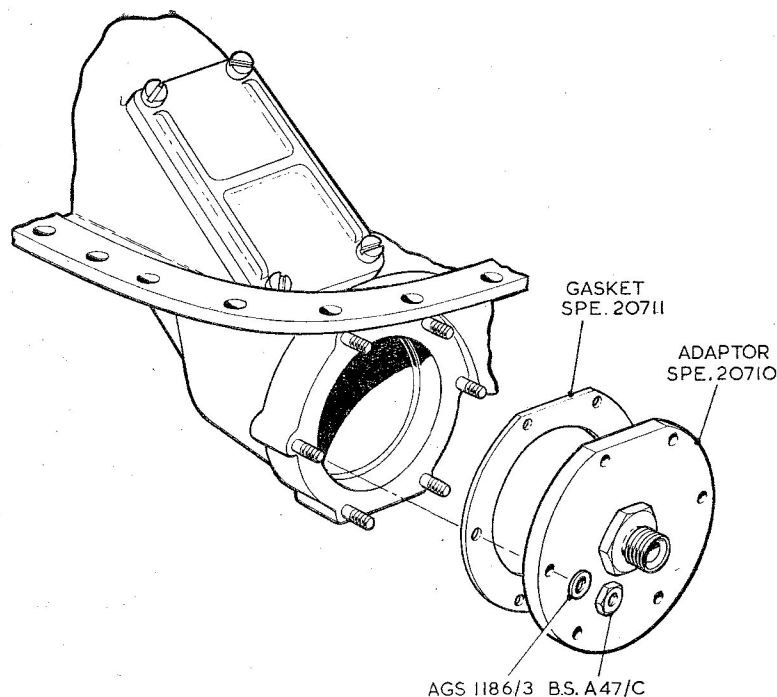

Fig. 12. Flap valve pressure test
26. The flap valve in the mounting plate must now be tested for reverse flow leakage. Fuel at a pressure of 2 lb./in.² and 75 lb./in.² is to be applied through the adaptor SPE.20710 (fig. 12) fitted to the outlet duct studs of the mounting plate. Fuel leakage past the valve should be collected in a measuring cylinder or other suitable graduated container and must not exceed a rate of 0.4 gal./hr. with fuel applied at 2 lb./in.² or 1.0 gal./hr. with fuel applied at 75 lb./in.². If leakage rates in excess of these figures are obtained, the valve plate should be removed and the seating re-lapped. Re-assemble and recheck.